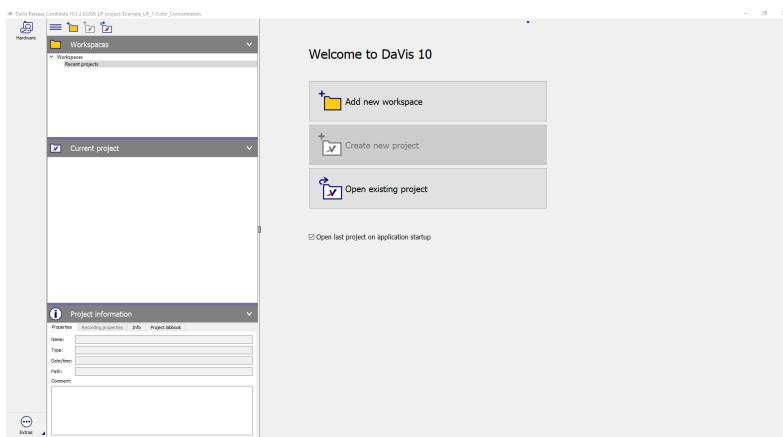

Figure 4.5: The **Workspaces** dialog with welcome screen at first start of **DaVis**.
- ✓ Click on the **Add new workspace** button in the **Welcome to DaVis** dialog (Fig. 4.5) to define an existing folder on your disk drive as workspace for future data acquisition.
- ✓ Click on **Open existing project** (Fig. 4.5) if you have an existing **DaVis 8** or **DaVis 10** project.